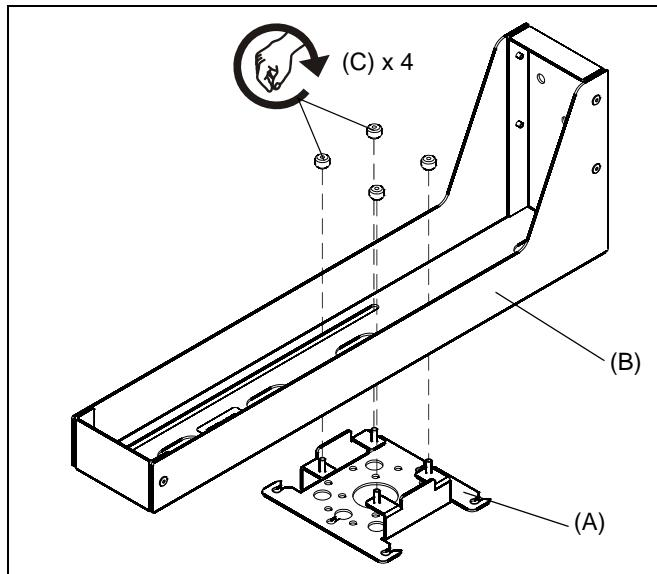

Figure 1
1. Attach wall mount adjustment bracket (A) to the wall bracket (B) using four thumb-nuts (C). (See Figure 1)